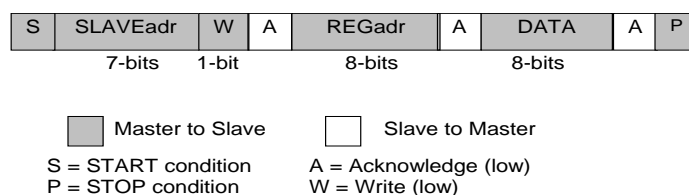
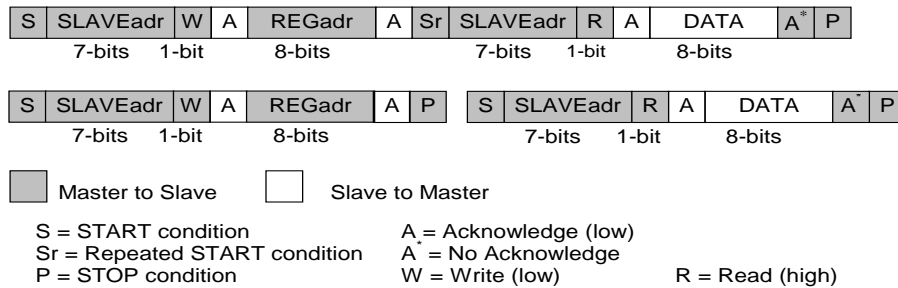

Figure 7: I²C Byte Write (SDA Line)
Figure 8: I²C Byte Read (SDA Line) Examples
The I²C bus is monitored for a valid slave address whenever the interface is enabled. It responds immediately when it receives its own slave address. The acknowledge is done by pulling the SDA line low during the following clock cycle (white blocks marked with A in Figure 7 and Figure 8).
The protocol for a register write from master to slave consists of a START condition, a slave address with read/write bit, and the eight-bit register address followed by eight bits of data, terminated by a STOP condition. DA9142 responds to all bytes with acknowledge (A), see Figure 7.
with a repeated START, or alternatively a second START, condition. After receiving the data, the host sends no acknowledge (A*) and terminates the transmission with a STOP condition, see Figure 8.